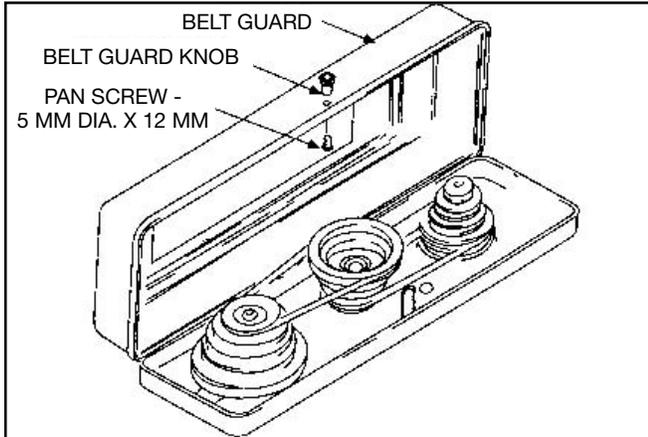

FIGURE 15
1. To attach belt guard knob, locate knob and 5 mm Dia. x 12 mm long pan screw in loose parts bag. Install screw in hole located on guard and attach knob turning until tight. See figure 15.